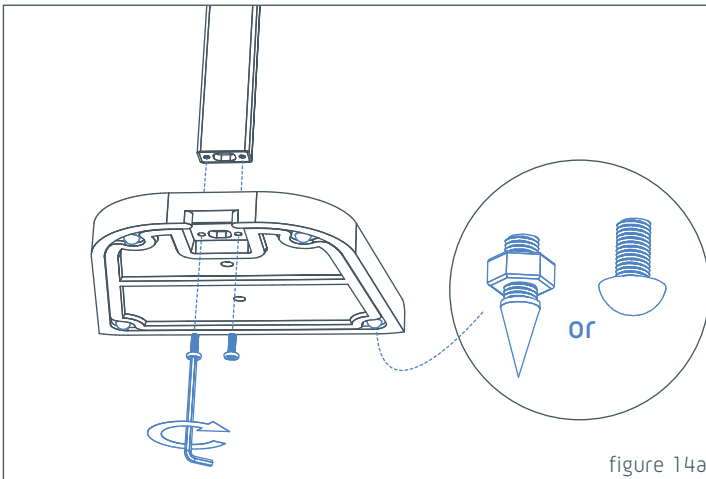

figure 14a
- Attach post to base using allen key and allen bolts supplied. (figure 14a-floor stand, 14b-table stand)
- If using Tryptix floor stand four floor spikes and rubber feet are supplied. Select and install spikes or feet appropriate to your floor surface. (figure 14a)